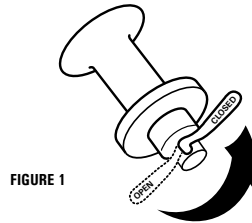

FIGURE 1
2. Move the quick release lever to the OPEN position and set the wheel so it seats firmly in the frame or fork tips. [see fig. 1].